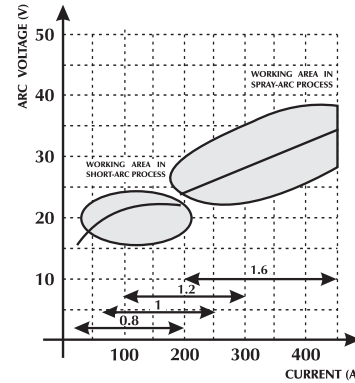

Fig.9 Diagram for selection of best working characteristic.
- The wire feed speed is proportional to the welding current. Fig.9 and 10 show the relations existing between the various welding parameters.